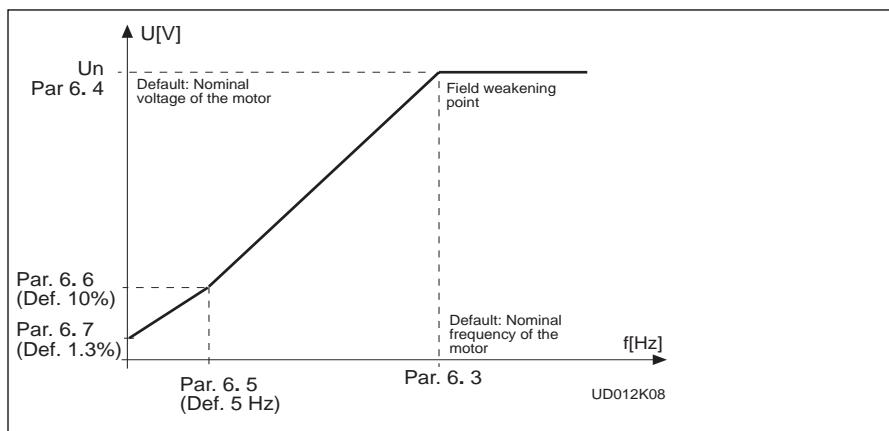

Figure 5-3 Programmable U/f curve.
- Programm. U/f curve 2 The U/f curve can be programmed with three different points. The parameters for programming are explained in chapter 5.2. Programmable U/f curve can be used if the other settings do not satisfy the needs of the application. See figure 5-3.